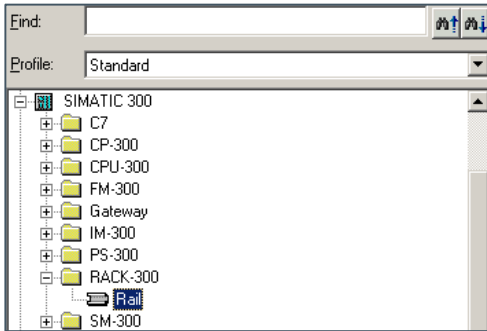

Figure 21: Add rail
- 1) At the right side of the window, select **SIMATIC 300 > RACK-300 > Rail** to add rail (see: Figure 21: Add rail).